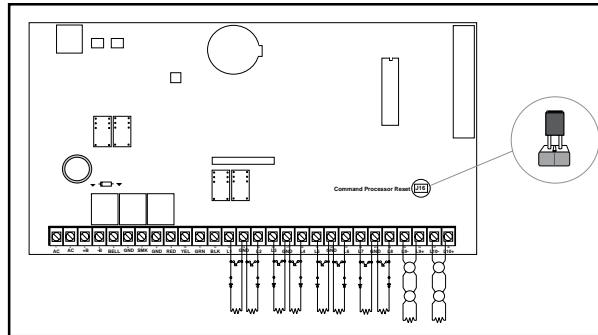

Figure 1: J16 Reset Jumper
1. Install the reset jumper across the two J16 reset pins for two seconds. See Figure 1.